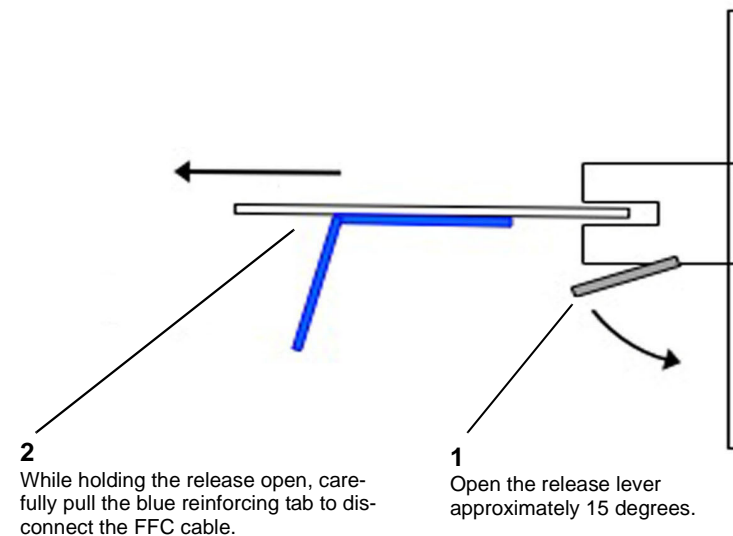

Figure 1 FFC cable disconnect
1. Disconnect the FFC cable, Figure 1.